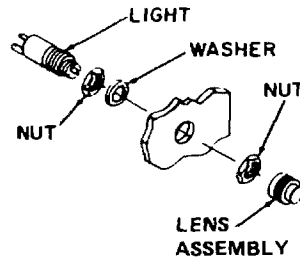

Figure 4-35. Indicator Lights, Removal and Replacement
(1) AIR CLEANER CONDITION indicator DS8. The indicator is actuated by the air cleaner indicator switch and lights to indicate dirty air cleaner panel filters.
(2) BATTLE SHORT indicator DS7. The indicator lights when BATTLE SHORT switch is in ON position. It will remain lit until the switch is positioned to OFF.
(3) CKT BRK indicator DS6. The indicator lights when main circuit breaker is in the closed position.
c. Replacement. Tag and disconnect leads to indicator lights. Remove or replace indicator lights as illustrated in figure 4-35.